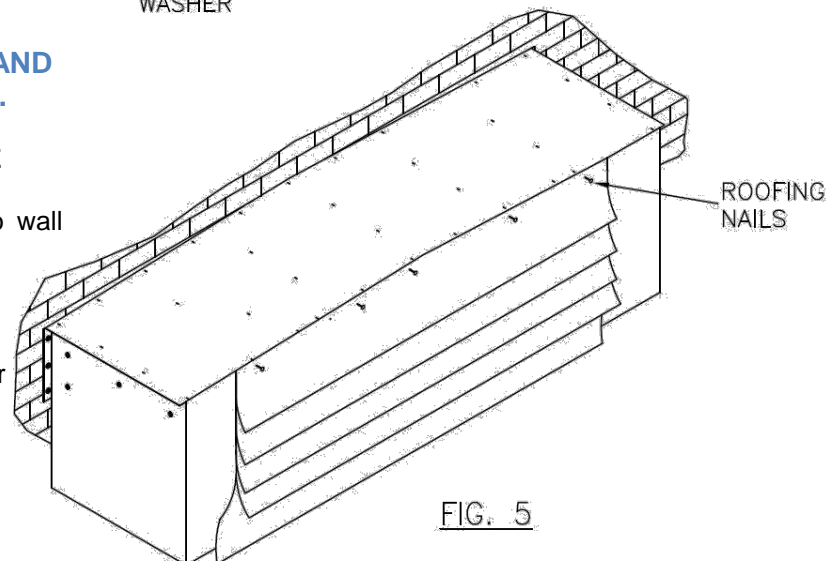

FIG. 5
- ii. Match top center of header curtain with top of center head frame (Fig. 5).